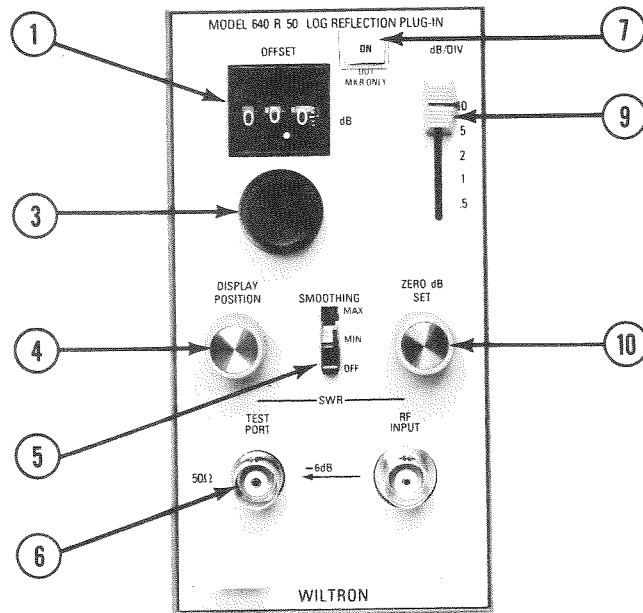

Figure 2-4. Log Reflection Plug-In, Model 640R
2-2.5 Log Reflection Plug-In, Model 640R (See Fig. 2-4)
The controls and indicators and their functions are identical to those listed for Models 640T and 640E with the following exceptions: the maximum sensitivity (dB/DIV) is 0.5 dB, controls (②) and (③) have been omitted, and an output port (see Figure 2-4) has been added.
⑥ SWR - The TEST PORT connector connects to the device under test. The RF INPUT is connected to the RF Output from the Model 640G Sweep Generator. A semi-rigid cable is supplied for this latter connection. For purposes of identification, the 50-ohm cable and the 75-ohm cable are both clearly labeled. There is a 6 dB difference in the signal level between the RF INPUT and the TEST PORT because of the loss across an internal SWR autotester (SWR bridge).